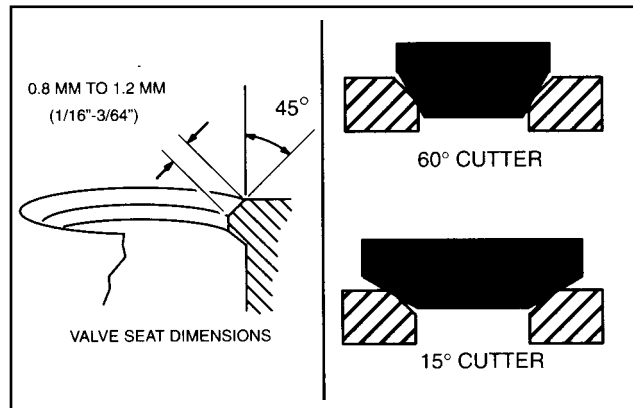

**Fig. 13 - Check Valve Guide Bushing**
2. Check valve guide bushings for wear using reject gauge, (Briggs & Stratton P/N 19381), Fig. 13.